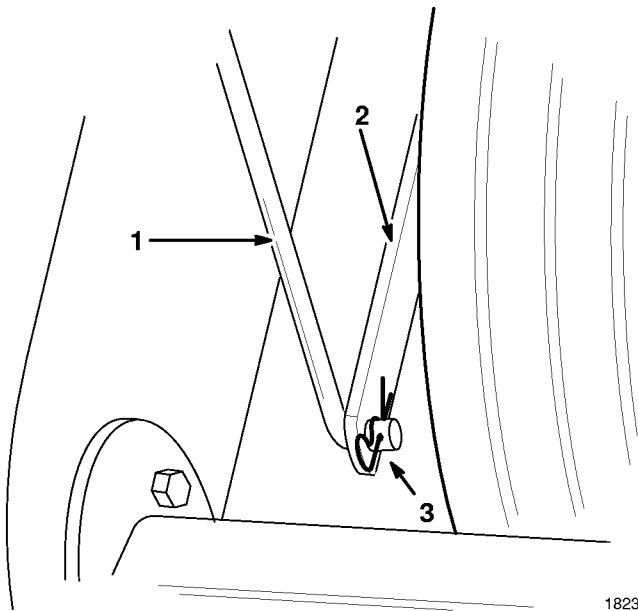

Figure 4
4. Secure lower end of height control rod to bracket on front wheel support with hair pin cotter (Fig. 4).